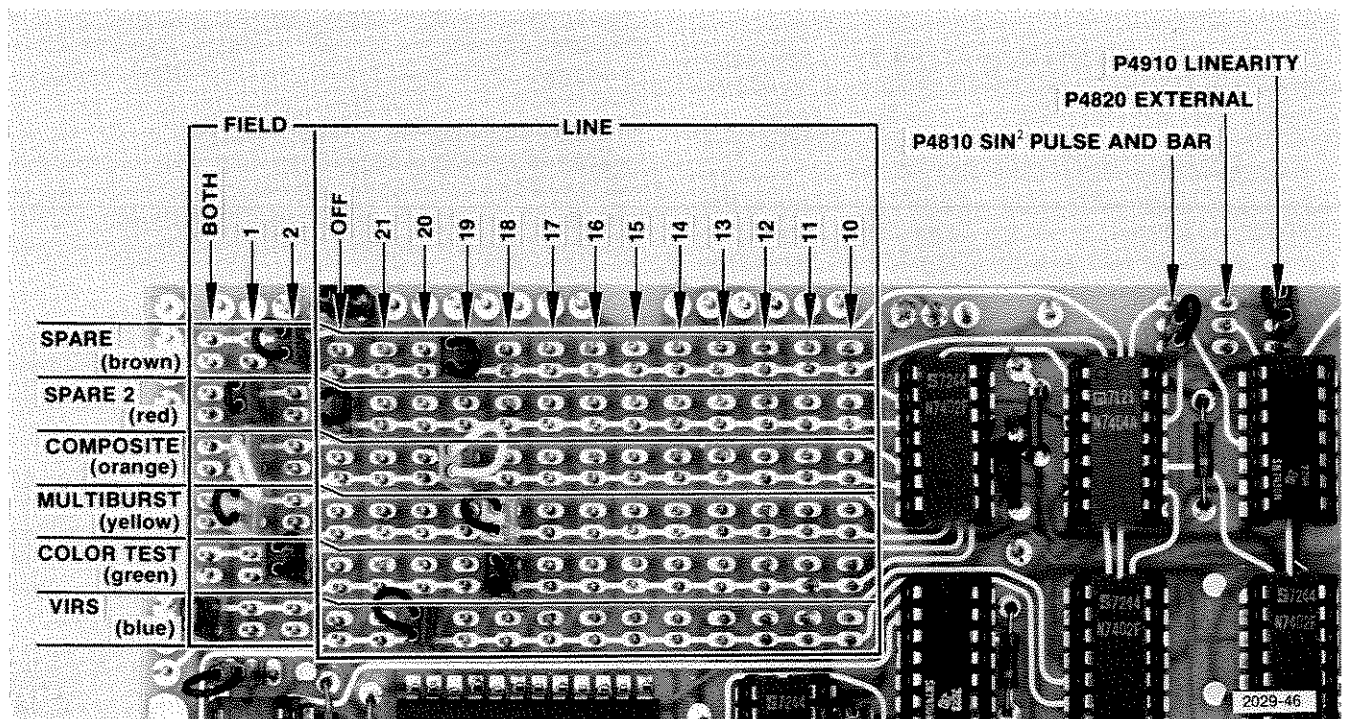

Fig. 1-14. VITS and FF circuit board location of VITS Line and Field selector plugs.
Referring to Fig. 1-14, notice that a rectangular matrix is used to select the line and field for each VIT signal. Two jumper plugs must be used to select the VITS; one for field selection, the other for line selection. To prevent or disable a particular VITS, move the line jumper plug to the OFF position.
SIN2 PULSE AND BAR: Pins two (2) and three (3) of P4810 (see Fig. 1-14) must be connected.